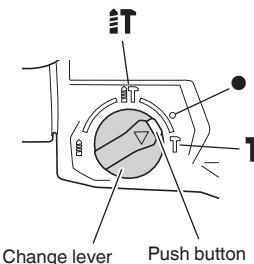
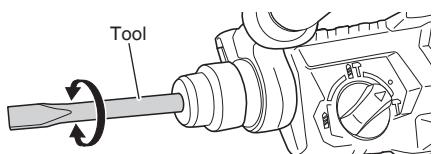

Fig. 12
Fig. 13
- (1) Mount the tool. (Bull point, cold chisel etc.)
- (2) Press the push button and set the change lever to **●** mark between **IT** mark and **T** mark (Fig. 12). The rotation is released, turn and adjust the tool to desired position (Fig. 13).